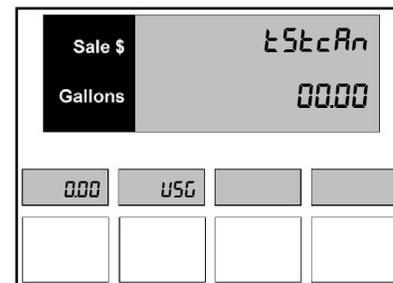
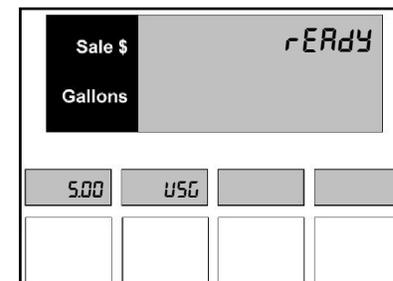

Figure 27.2 – Test Can Size Entry
Figure 27.3 – Test Can Sale
2. The main display shows the test can size entry prompt as shown in *Figure 27.2*. Enter the test can size and press the **Enter** button. Once the test can size has been entered, the main display for the select dispenser side will show **READY** and the test can size will appear in the first PPV display. The second PPV display will show the volume unit of measure (USG for United States Gallon, LIT for liter or BIG for British Imperial Gallon) as shown in *Figure 27.3*.